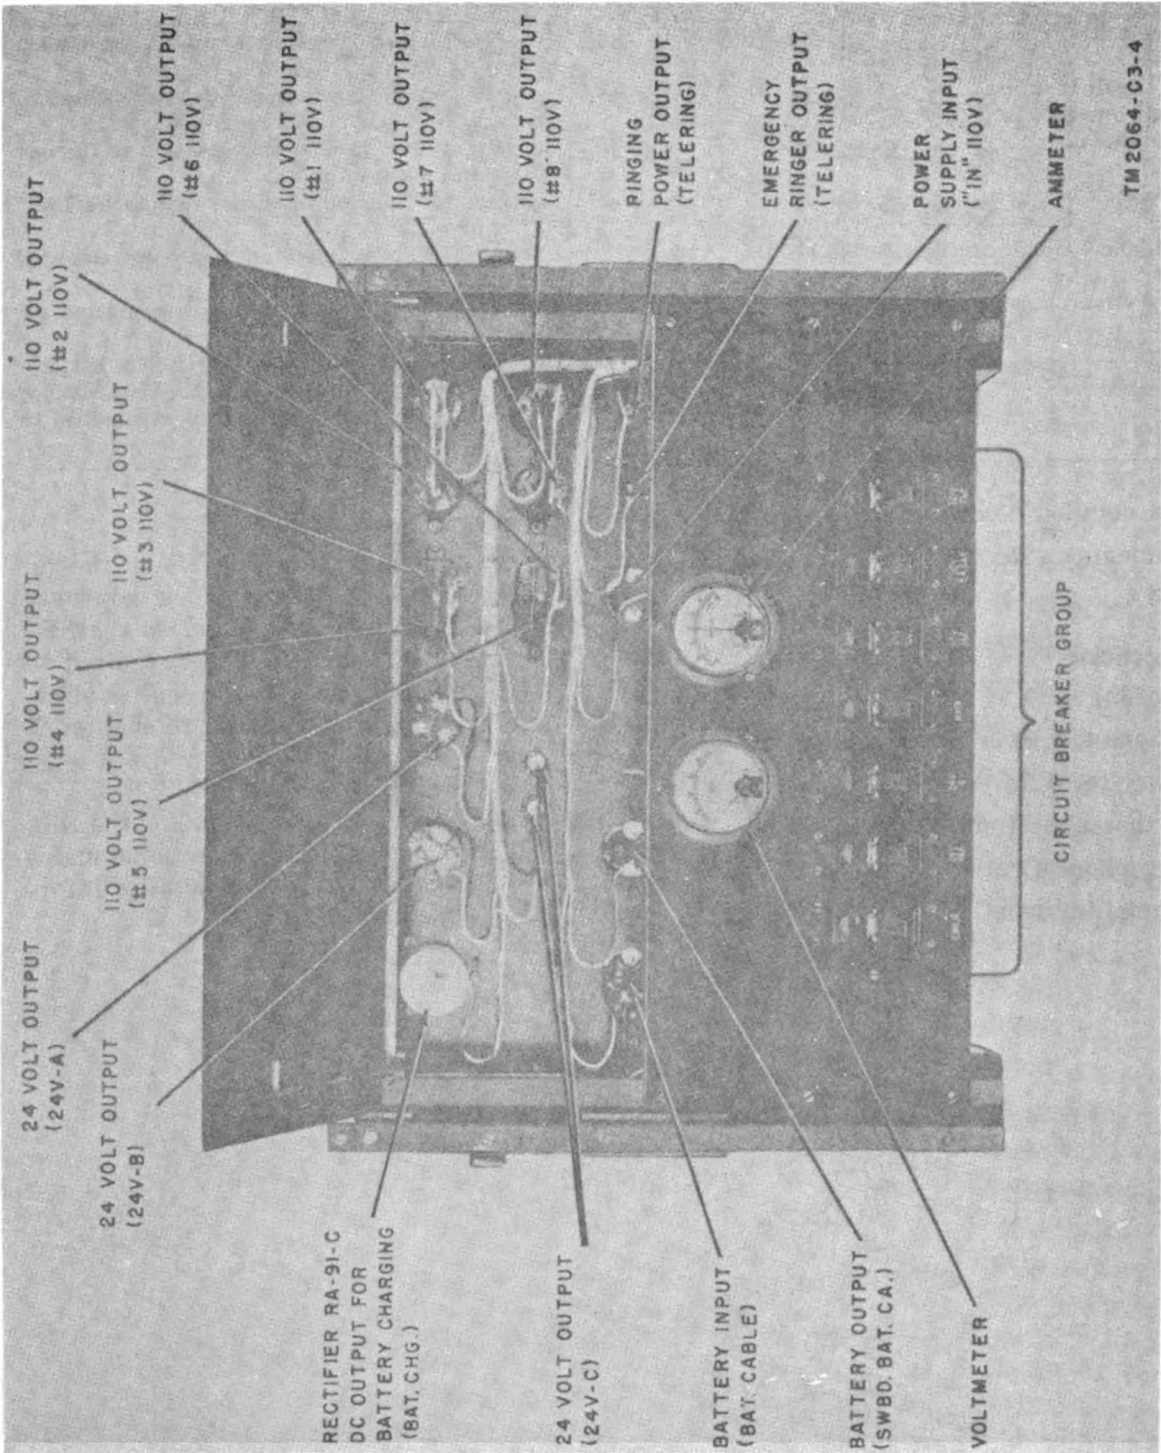

Figure 31 (Added) Meter and switch panel, front view, and wiring side of cord connector panel.
52. Controls and Instruments (fig. 31)